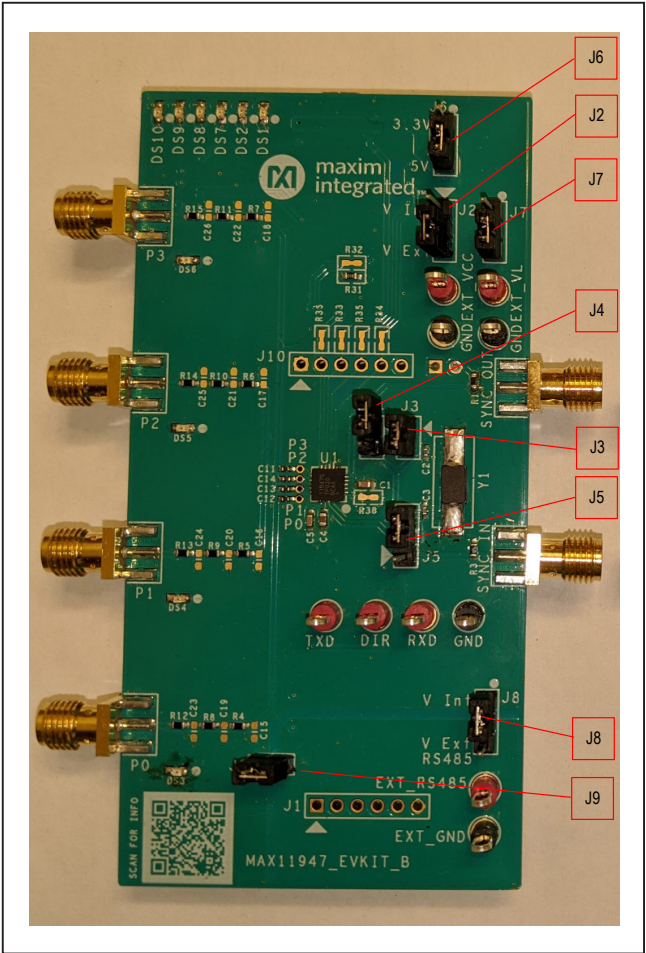

Figure 2. MAX11947 EV Kit Board—Jumper Locations
- 1) Verify that shunts on both boards are installed across their default positions as defined in Table 1 and shown in Figure 2 below.
- a) Connect one (1) USB A to micro-B cable to the PC and one EV kit board (PCB1). Red and green LEDs, 4 each, should be illuminated on the top side of the board along with a single green LED on the bottom.